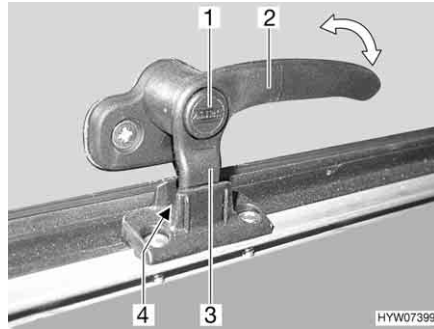
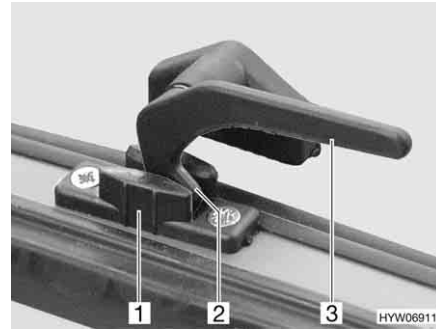

Fig. 76 Catch lever with safety knob in "continuous ventilation" position
Fig. 77 Catch lever in the "continuous ventilation" position
- "Continuous ventilation" (Fig. 76 and Fig. 77)
- Press and hold the security button (Fig. 76,1), if present.
- Turn the catch lever (Fig. 76,2 or Fig. 77,3) a quarter turn towards the centre of the window.
- Return the catch lever to its initial position. Move the locking catch (Fig. 76,3 or Fig. 77,2) on the catch lever into the recess of the window catch (Fig. 76,4 or Fig. 77,1).